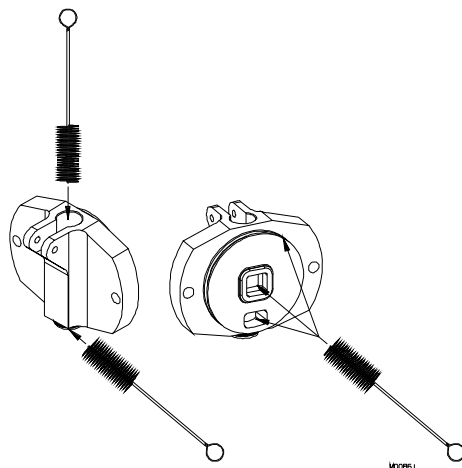

Figure 7-6 Clean the head ports
b. the head plunger openings, center plunger ports, breaker bar cavities, O-ring grooves, dispense nozzle mounting rings and mix ports (figure 7-6).